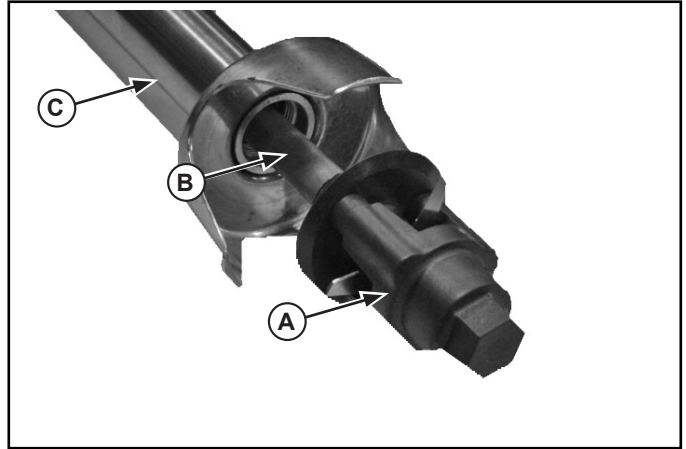

Figure 8. Removal and Installation of Blade Shaft Assembly.
4. Pull the blade shaft assembly (B) from the attachment arm (C) See Figure 8.
10. Slide the shaft assembly (B) into the attachment arm (C). See Figure 8.